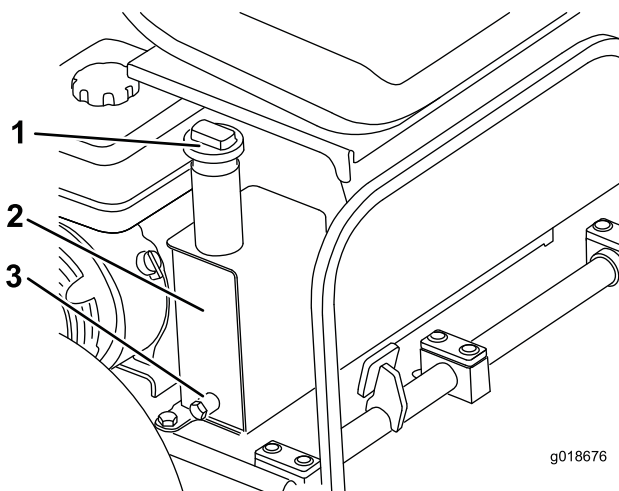

Figure 20
- B. Remove the cap from the top of the oil tank (Figure 20).
1. Place a drain pan under the oil tank drain plug (Figure 20).
2. Remove the drain plug from the side of the tank (Figure 20).
7. Remove the oil tank cap (Figure 20).